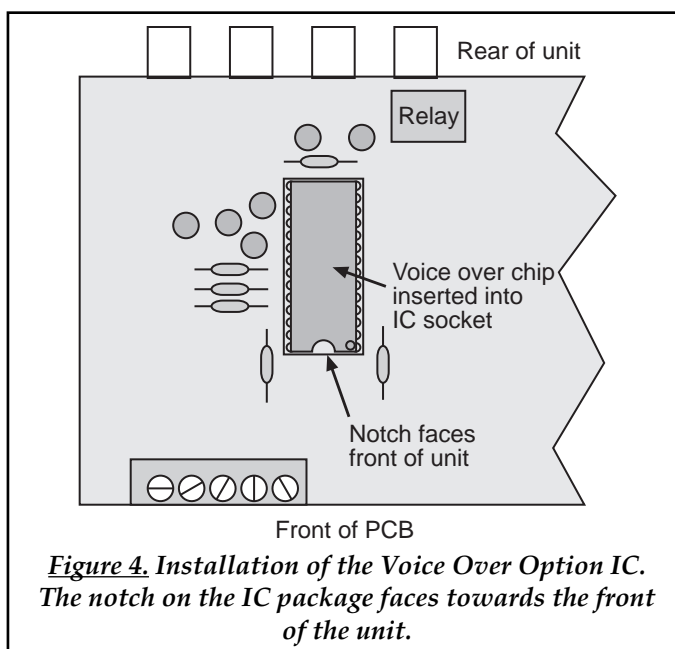

Figure 4. Installation of the Voice Over Option IC. The notch on the IC package faces towards the front of the unit.
2. Remove cover and place integrated circuit in the spare socket on the PCB as pictured in fig.4. Ensure that you do not contact the legs of the IC as these can be damaged by a static discharge. Ensure also that the IC is orientated with the notch near pin 1 toward the front of the unit.